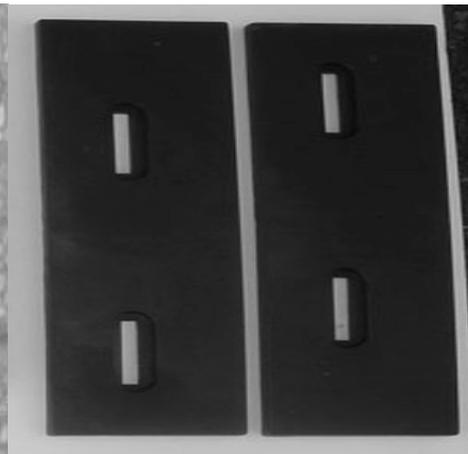

Fig. 8
- 3) Place the two 27 mm fences on the main guide by using 4 round head square neck bolts and 4 knurled knobs (Fig. 8).